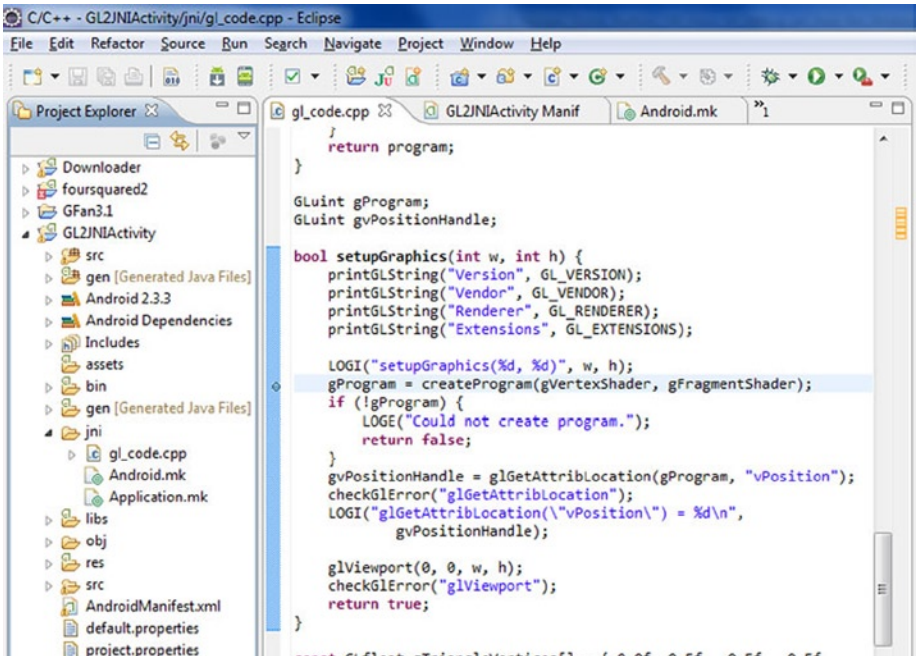

Figure 8-26. Setting Breakpoints
16. Open `jni\gl_code.cpp` and set a breakpoint (see Figure 8-26) in `setupgraphics` by double-clicking the left margin of the text editor (or right-clicking and selecting `Toggle Breakpoint`).